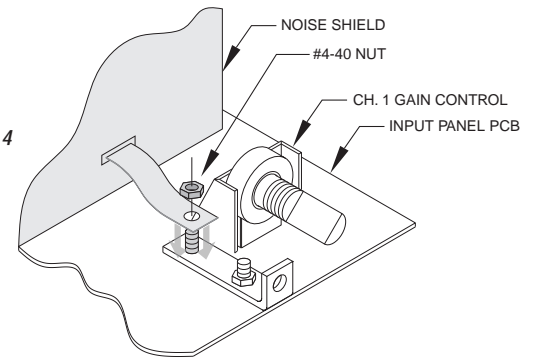

Figure 4
- 9 Using a 1/4-inch (6.3 mm) nutdriver, remove the outer 4-40 nut from the stud in the panel mounting bracket, next to Channel 1’s gain control potentiometer. Place the noise shield over the circuit board of the MPC-X100 (Figure 3) and bend the grounding tab down so its hole goes over the stud. Re-install the nut, and tighten it securely (Figure 4).